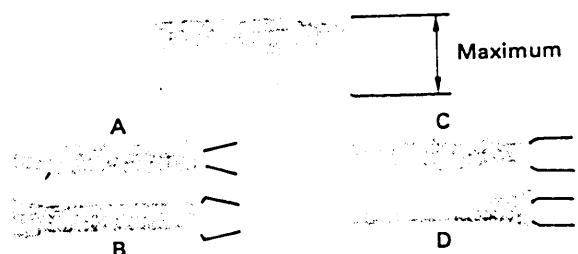
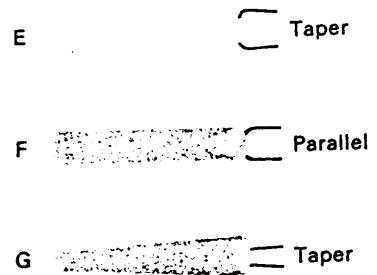

Fig. 7-8 Minimum FM output (incorrect examples)
Fig. 7-9 Minimum FM output (correct examples)
- b) If there are waveforms as shown by A or B in Fig. 7-8, carefully adjust the supply guide roller height so that the waveform appears as shown by E, F, or G in Fig. 7-9. At this time, if the waveform fluctuates, adjust to the point of minimum fluctuation.
- c) If the FM waveform appears as shown by C or D in Fig. 7-8, carefully adjust the take-up guide roller height to obtain a waveform such as shown by E, F, or G in Fig. 7-9. At this time, if the waveform fluctuates, adjust to the point of minimum fluctuation.
Perform fine adjustment of supply and take-up guide rollers so that waveform variation appears as shown by E, F, or G of Fig. 7-9.